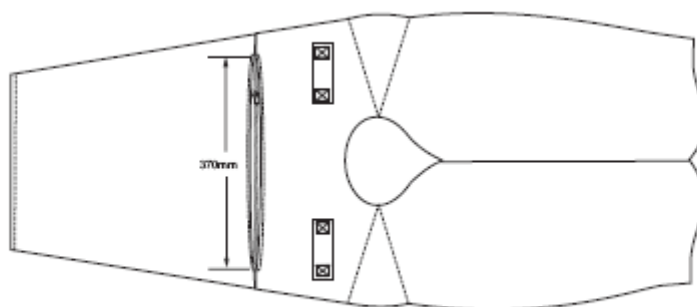

Figure A.9 – Completed outer cover
3.2.3.2 Sew the 370 mm zipper (component 6.6) to the back outer cover (component 1.2) and front outer cover (component 1.1) as shown in figure A.9. Turn the bottom edge of the back cover up 13 mm and topstitch.